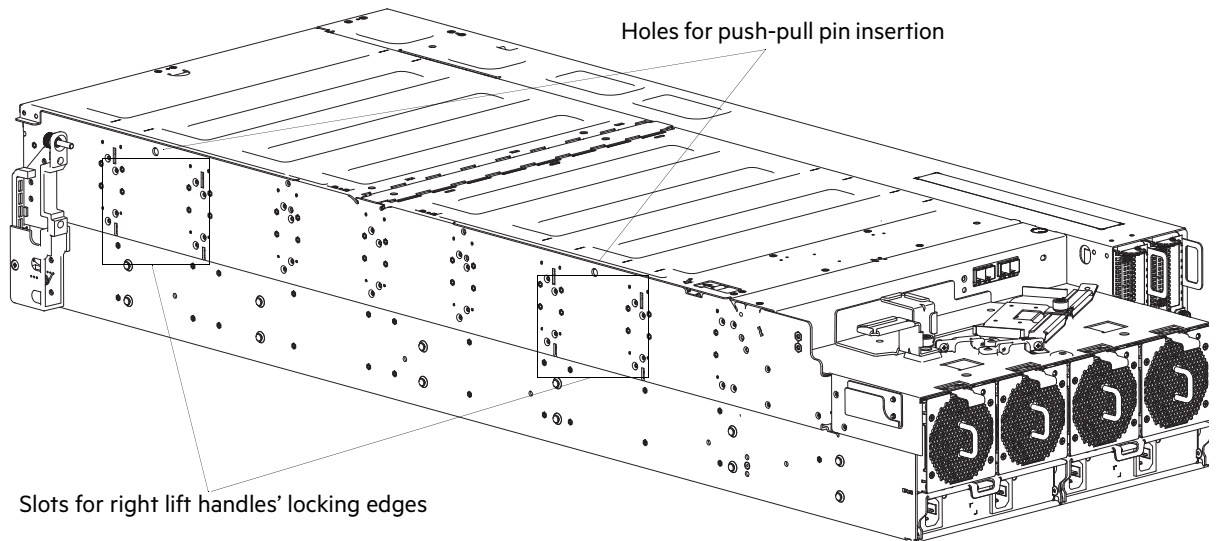

Figure 27 Lift handles and their slots present on the enclosure
Figure 27 shows left, and right lift handles along with their slots present on the enclosure sidewalls. Each 4U100 enclosure supports four lift handles (two identical lift handles on the left sidewall, and two identical lift handles on the right sidewall). Carefully mark the difference between the left and right lift handles, and their slots present on the enclosure.
1. Identify the left lift handles (see Figure 27) (quantity 2), and remove them from the packaging box.